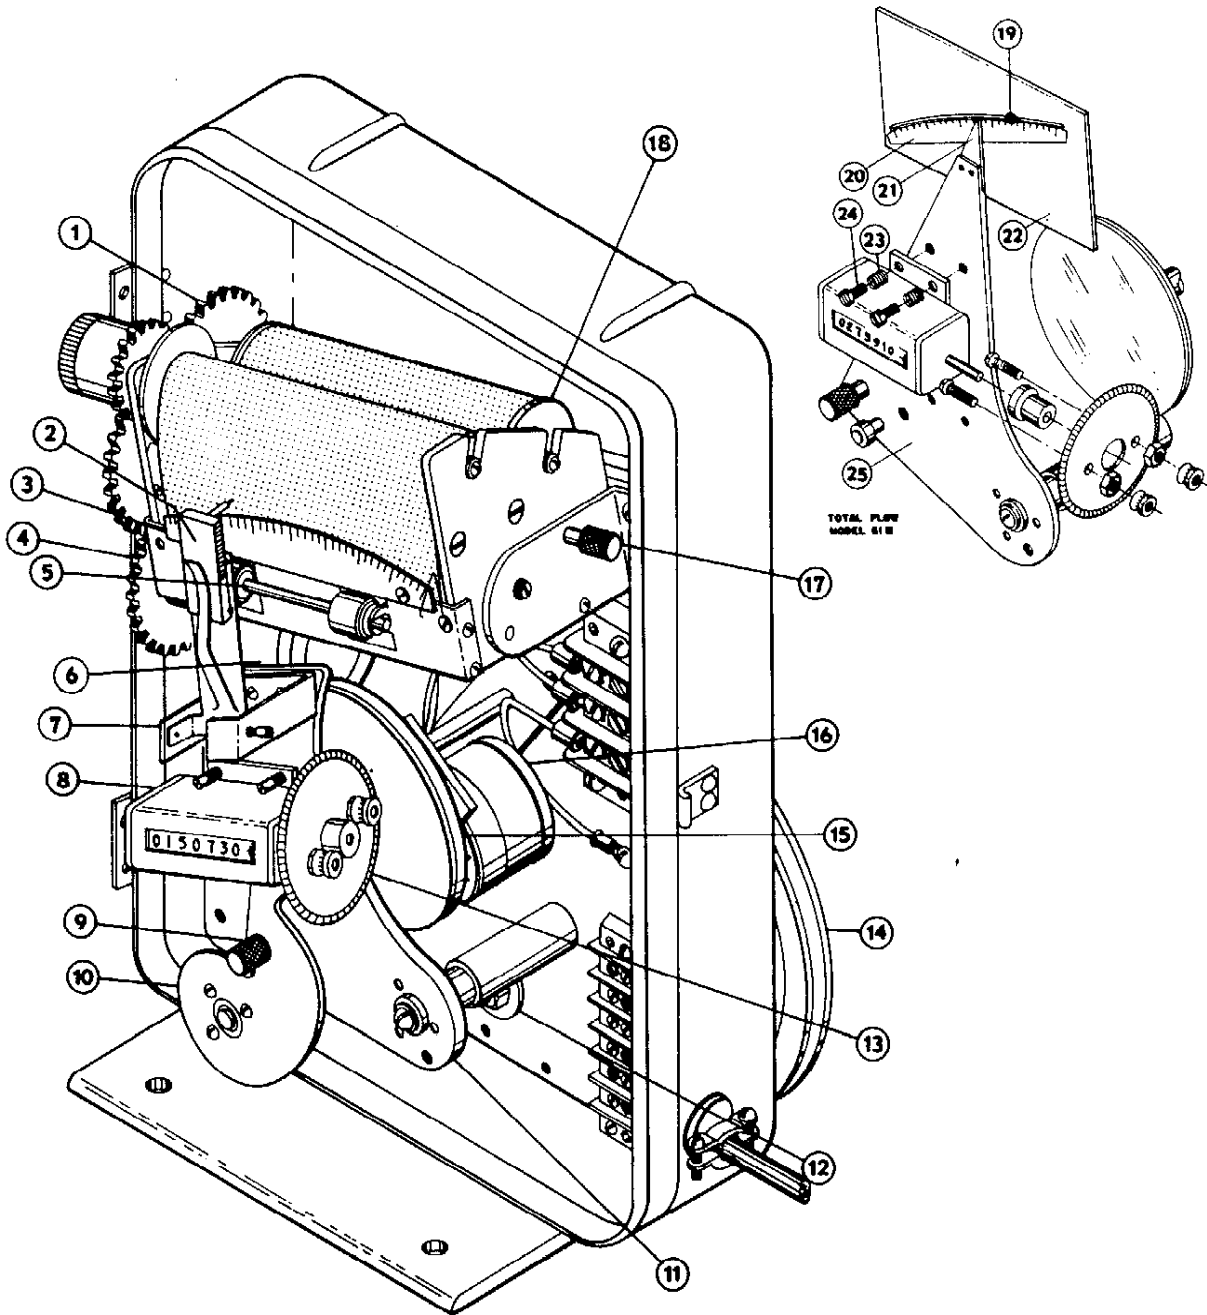

Figure 13. Parts
6.4.1.1 Attach the heater to the recorder mounting plate, left of the cam shaft bearing housing as shown in Figure 13. Two #8-32 x 3/4 inch long machine screws are required. Tighten the screws securely.
- 7.1.1 Remove the pointer plate and pivot hub by removing the pivot screw in the lower right corner of the pointer plate (Figure 13- (11)).
- 7.1.2 Remove cam hub and cam shaft collar by loosening set screws and sliding cams and collar from the cam shaft (Figure 13- (10)).
- 7.1.5 Remove totalizer disk assembly by loosening set screw and sliding from shaft (Figure 13- (15)). Remove the small set collar.
(Refer to Illustrated Parts Breakdown Figure 13)